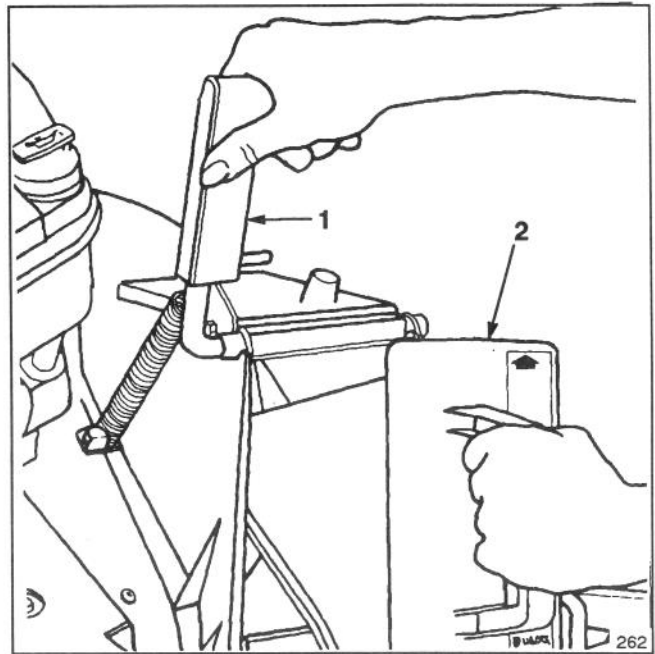

Figure 2
1. Open the discharge door by pulling forward on the handle and moving it rearwards (Fig. 2). Hold the discharge door handle to prevent the spring-loaded door from closing while inserting the plug.
2. Since the plug is slightly wider than the discharge tunnel opening, rotate the plug clockwise slightly while inserting it (Fig. 2). Make sure the arrow on the plug decal is pointing upwards.